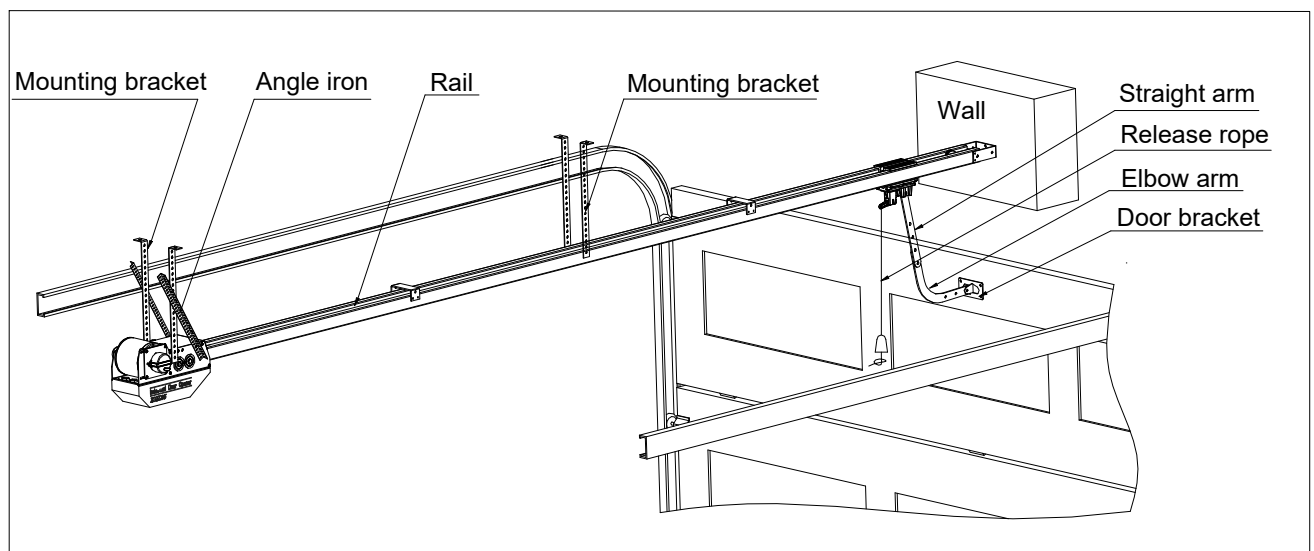

Fig.10
- Fix the operator to ceiling with 2 mounting brackets and 2 angle irons by using 6 hexagon socket head cap screws M6X16, plain & spring washers see Fig.10, make sure that the rail is level. Add 2 mounting brackets in the middle if the length of rail is more than 4.5m. If necessary, Check the door does not touch any part of the rail by opening or closing it manually.